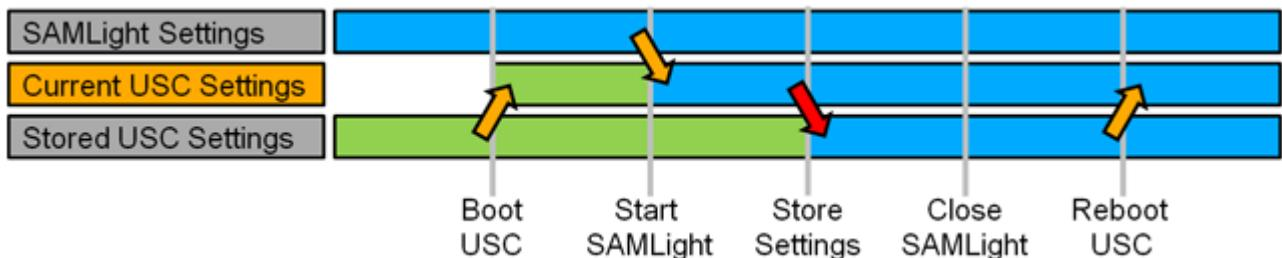
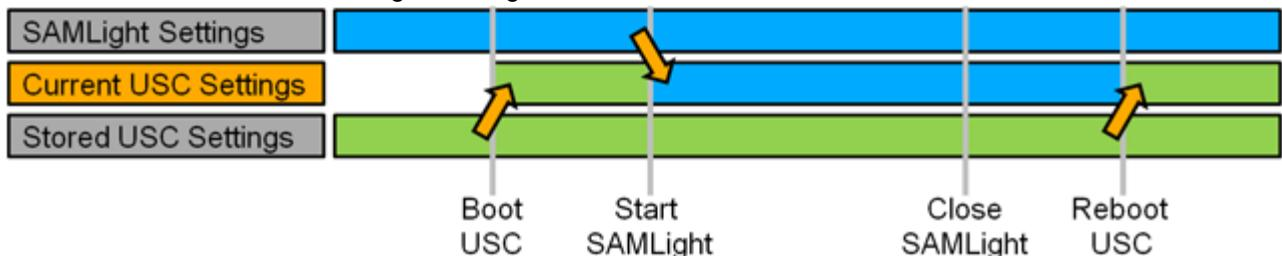

Figure 279: Correct handling: SAMLight and USC settings with proper storing
Figure 280: Common mistake: SAMLight and USC settings without storing leading to change of settings after reboot
- 1: Store settings:** For standalone mode, the USC settings are used. Therefore, it is necessary to store the SAMLight settings on the USC card via the Store button. Please refer to figure 279 and figure 280.
The current USC settings on the USC card change with different events, see figure 279:
- To avoid loss of these current USC settings after reboot of the USC card (see Fig.280), the current settings need to be stored. Storing the settings on the USC card can be done via the Store.
The current USC settings on the USC card change with different events, see figure 280: